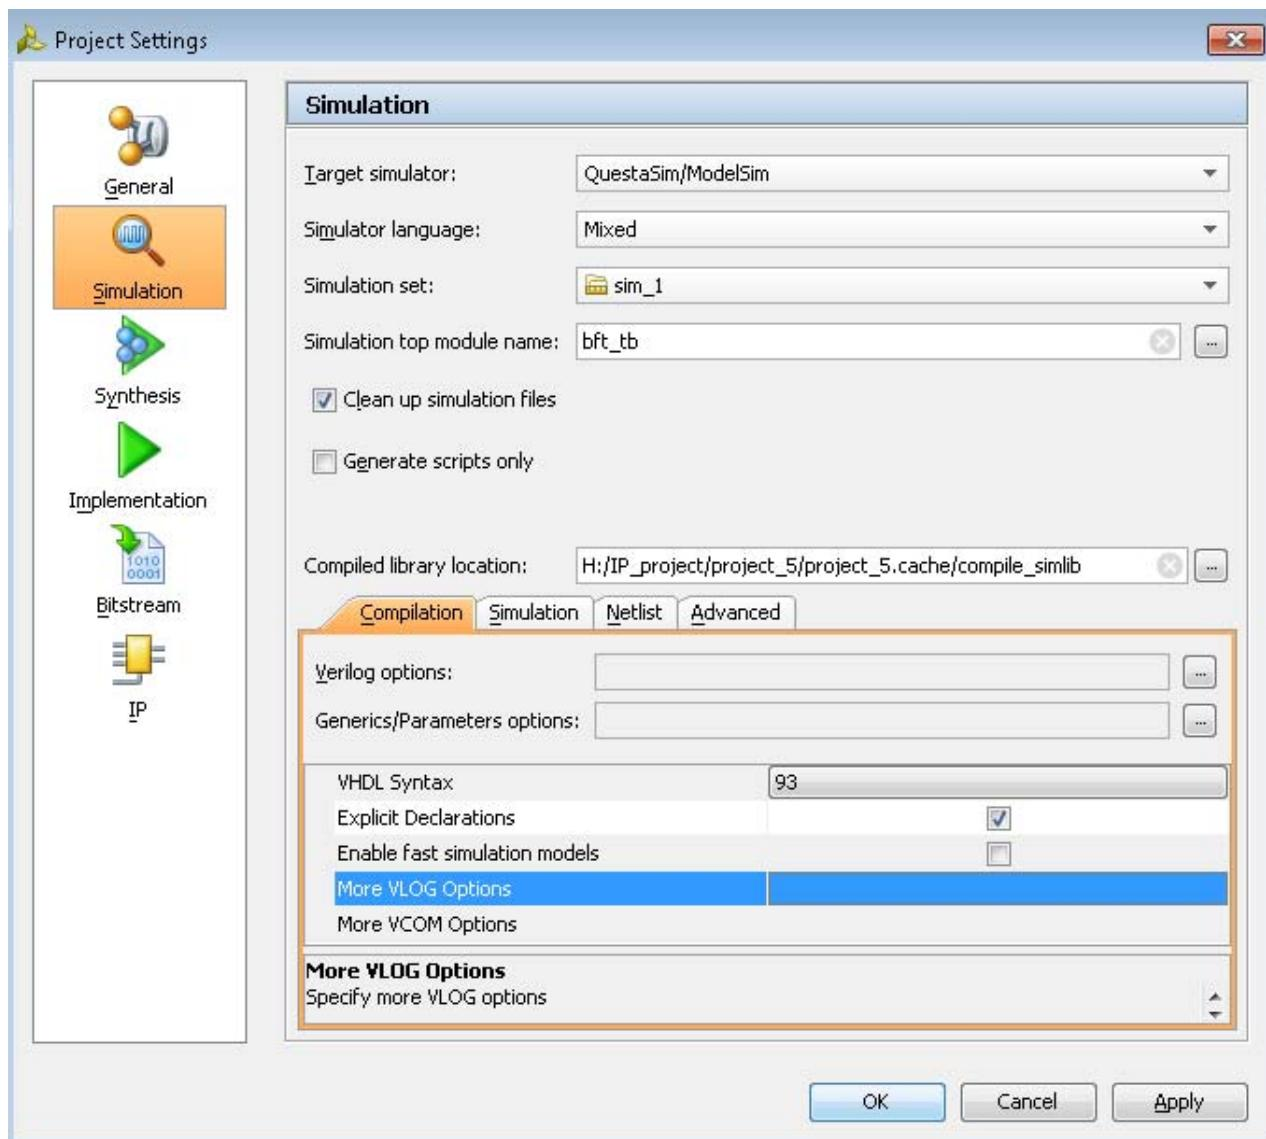

Figure 6-2: QuestaSim/ModelSim Settings
1. In **Project Settings > Simulation**, set the **Target simulator** to **QuestaSim/ModelSim**. as shown in Figure 6-2.